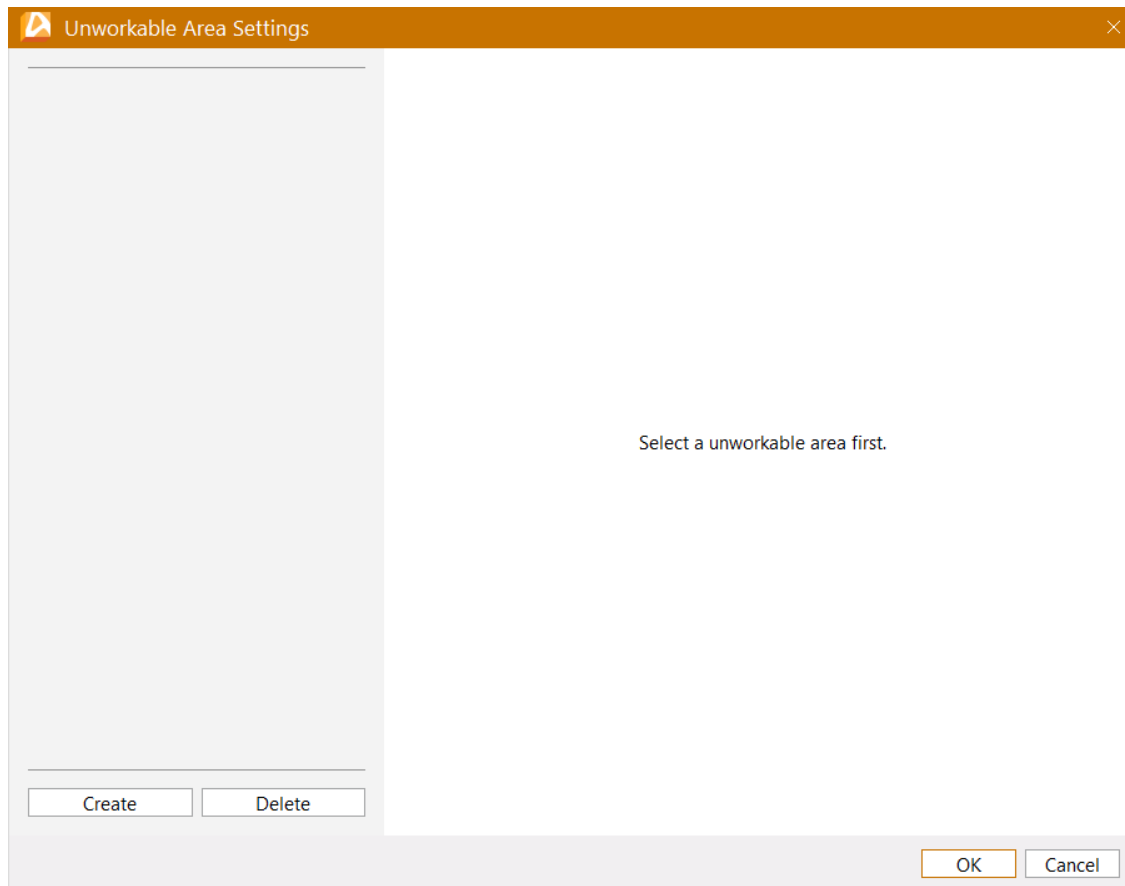

Figure 12.11 Unworkable area setting
1) In the "My Machines" dialog, click the "" icon button, you can change the 3D dimensions of the platform by adjusting the X, Y, and Z values. With check "Enable Unworkable Area Recognition", you can set some areas on the platform where parts cannot be placed. Click "Edit Unworkable Area Parameters", a dialog box for setting the unworkable area will pop up, as shown in Figure 12.11.